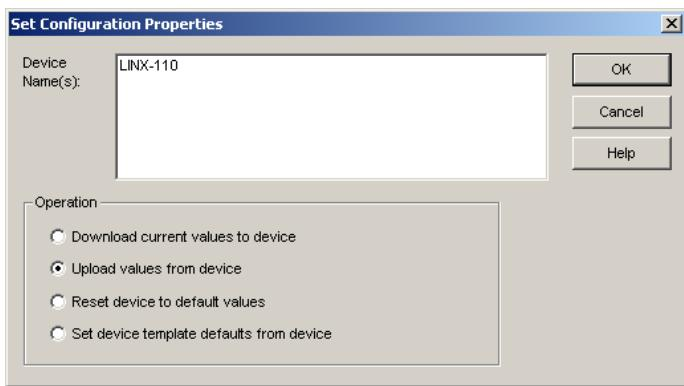

Figure 117: Set Configuration Properties in LonMaker TE.
2. This opens the dialog shown in Figure 117.